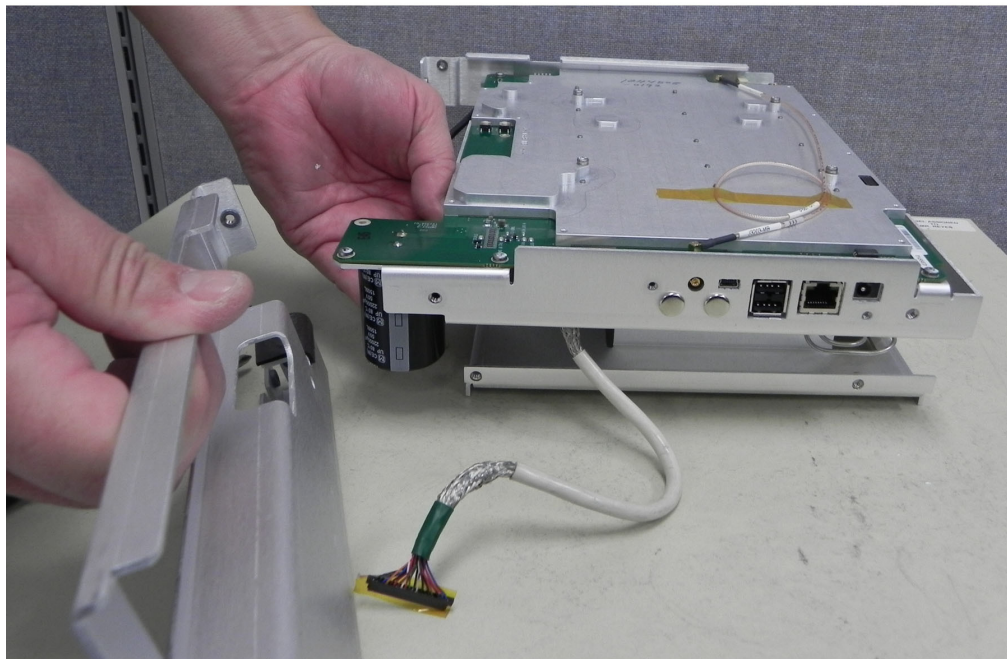

Figure 5-31. Remove Side Brackets
11. If applicable, remove the brackets from both sides of the filter assembly (Figure 5-31). The sample below has 4 screws on each side. On the connector panel side, slide the side bracket past the large black capacitor. Be careful to avoid damaging the capacitor while removing the side bracket.